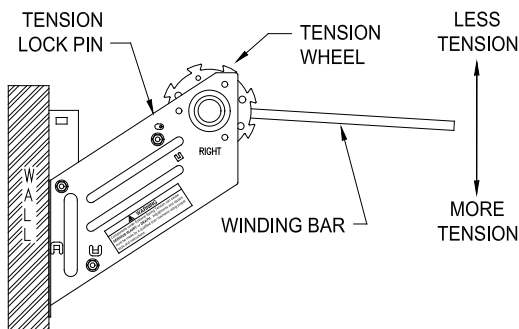

Figure 1.
2. Close door and remove all tension from all springs using the winding bar or equivalent. To remove tension, insert winding bar into tension wheel and move down 1" to unlock ratchet. Push tension lock pin toward wall and raise winding bar 2". Release tension lock pin. Move up 1/8 turn until ratchet locks in place. Repeat until all tension is removed from the spring. See Figure 1.